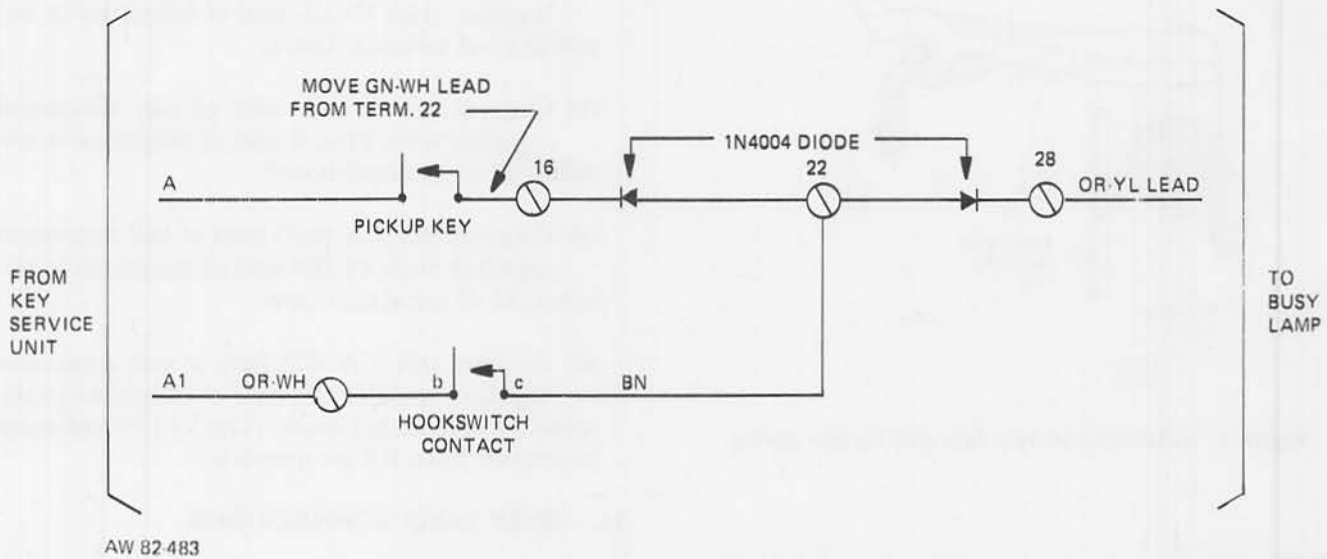

Figure 4: Busy Lamp Connections For 20-Button Telephones with Feature Codes 42 and 46
11.01 Busy lamp connections may vary depending on the type of key system being used. Modifications for the 20-button desk telephones with feature codes 42 and 46 should be as follows: (Refer to Figure 4.)
- (b) Connect one 1N4004 diode between terminals 22 and 16 on the terminal board, and connect another 1N4004 diode between terminals 22 and 28 on the terminal board as shown in Figure 4.